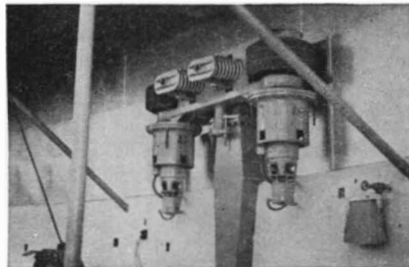

Figure 10: The Palomar dome drive
**I**N his new book about the 200" telescope, entitled "The Glass Giant of Palomar," David O. Woodbury discusses the methods used for rotating observatory domes. At Yerkes and Lowell the domes were pulled around by cables wound on a drum. At Mt. Wilson the big dome rests on wheels geared to motors. At Palomar, however, there are two pairs of 5 h.p. motors, one pair of which is shown in Figure 10, a photograph
by Major Martin D. McAllister of the Municipal University of Wichita, Wichita, Kansas. The vertical drive shafts carry solid rubber truck tires held to the bottom band of the dome by means of springs and friction. As shown in Figure 10, they make contact with the dome through a narrow opening in the top band of the fixed base. This dome drive also acts as a brake or clamp for holding the dome, otherwise the